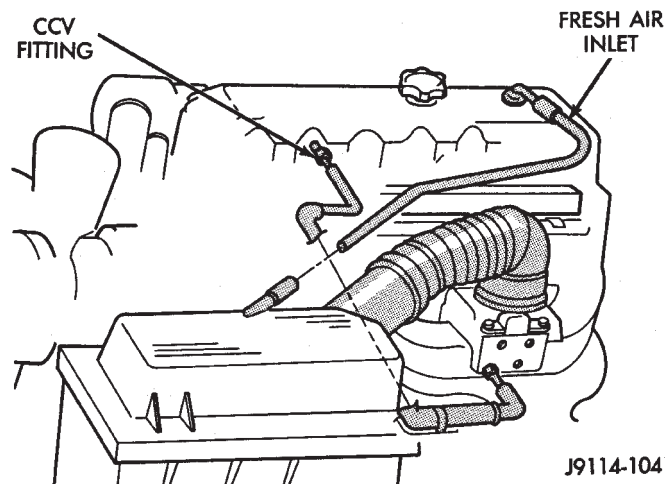

Fig. 11 CCV System—2.5L Engine
(8) Verify that crankcase ventilation (CCV) fresh air hose is firmly connected to cylinder head and air cleaner covers (Figs. 11 or 12).